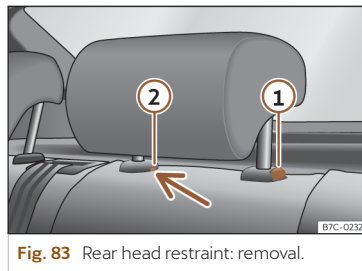

Fig. 83 Rear head restraint: removal.
- Press button >>> **Fig. 83** ①, while simultaneously pressing on the safety hole ② with a flat screwdriver a maximum of 5 mm wide, and remove the headrest.